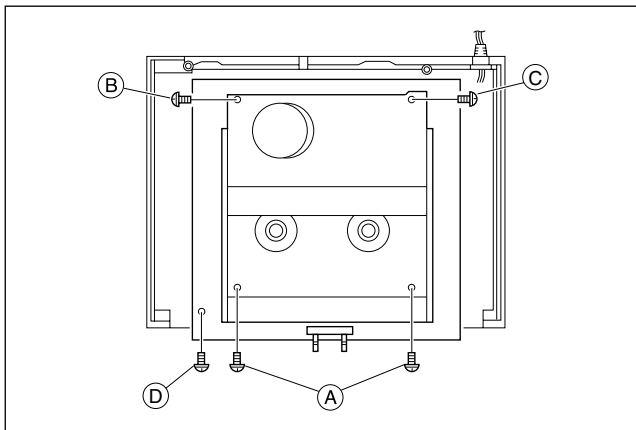

Fig. 1-4-1
- (1) Remove the Top cover, Bracket and Front panel assembly. (See 1.3 DISASSEMBLY/ASSEMBLY METHOD.)
- (2) Lower the cassette holder, and make the preparations required in order to remove the screws from the Mechanism assembly. (Refer to the "Procedures for Lowering the Cassette holder assembly" on page 1-2 of 1.3 DISASSEMBLY/ASSEMBLY METHOD.)
- (3) Take out 2 screws (A), 1 screw (B), 1 screw (C) and 1 screw (D) as shown in Fig. 1-4-1.